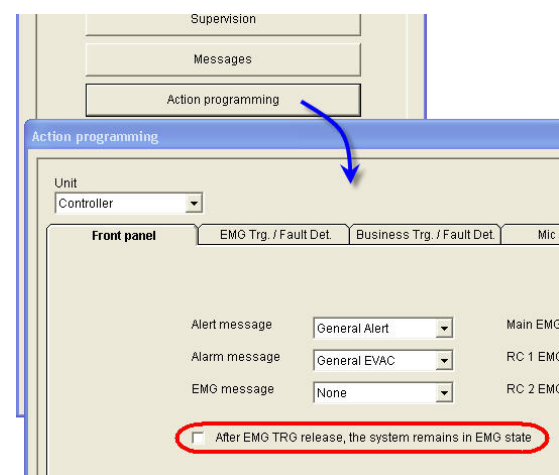

Figure 11 – EMG state behavior setup
- 9) Press "Action programming" to configure the Emergency state behavior and the soft triggers (virtual triggers). (figure 11)
- 10) Select the Tap "Front panel" and uncheck "after EMG TRG release, the system remains in EMG state" and save it (figure 11)